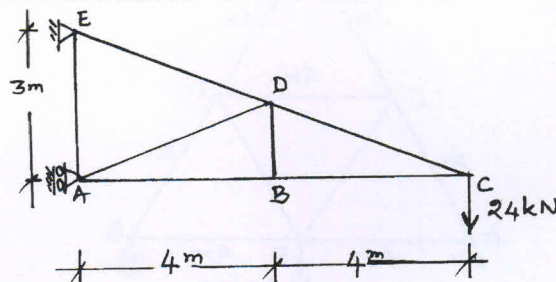

Fig.Q6(a)
- 6 a. For the truss shown in Fig.Q6(a), determine the vertical deflection at C by strain energy method. Take $E = 210 \text{ GPa}$ and $A = 5 \times 10^4 \text{ mm}^2$.